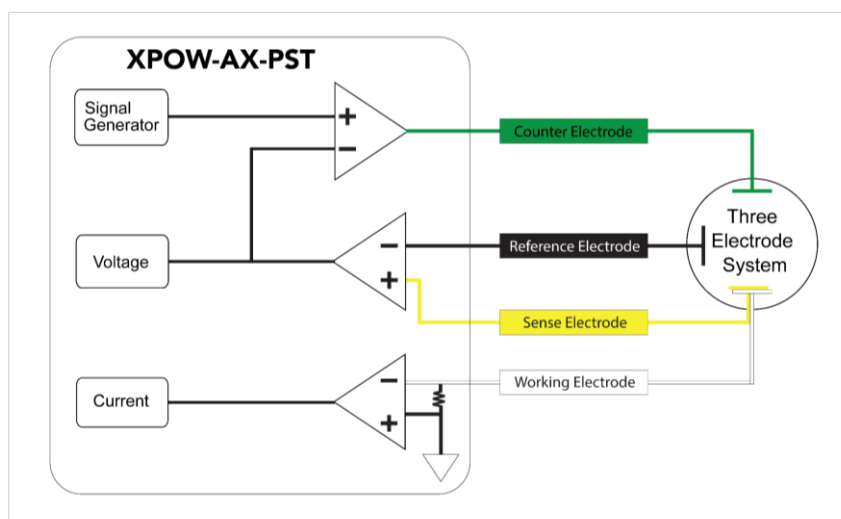

Figure 2. Schematic of XPOW-AX-PST into electrode cell
There are 4 (four) different electrodes: Working Electrode (WE), Counter Electrode (CE), Reference Electrode (CE), and Sense Electrode (SE). Figure 2 shows the connection for the potentiostat, we can see that for three electrode system, the SE port is coupled with the WE port.